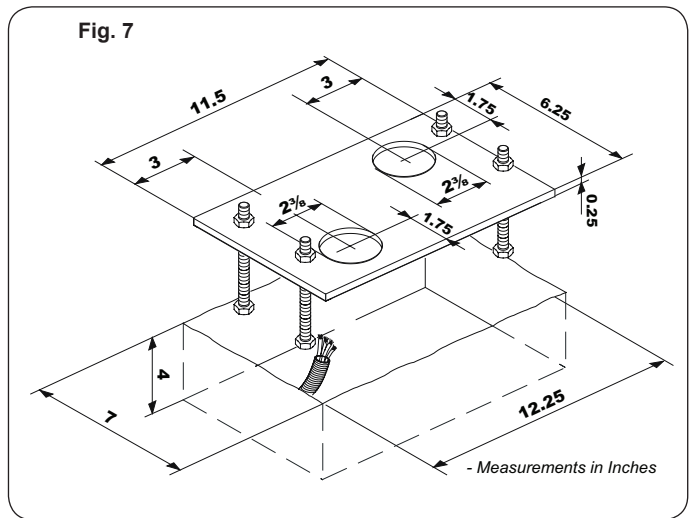

Fig. 7
2. Prepare a concrete pad as shown in Fig.7, following the suggested dimensions. It's recommended to have the pad a minimum of 4" above level grade to avoid any flooding of the operator. The underground depth of the concrete pad is determined by the soil condition and the local building codes. Make sure the concrete pad is leveled.